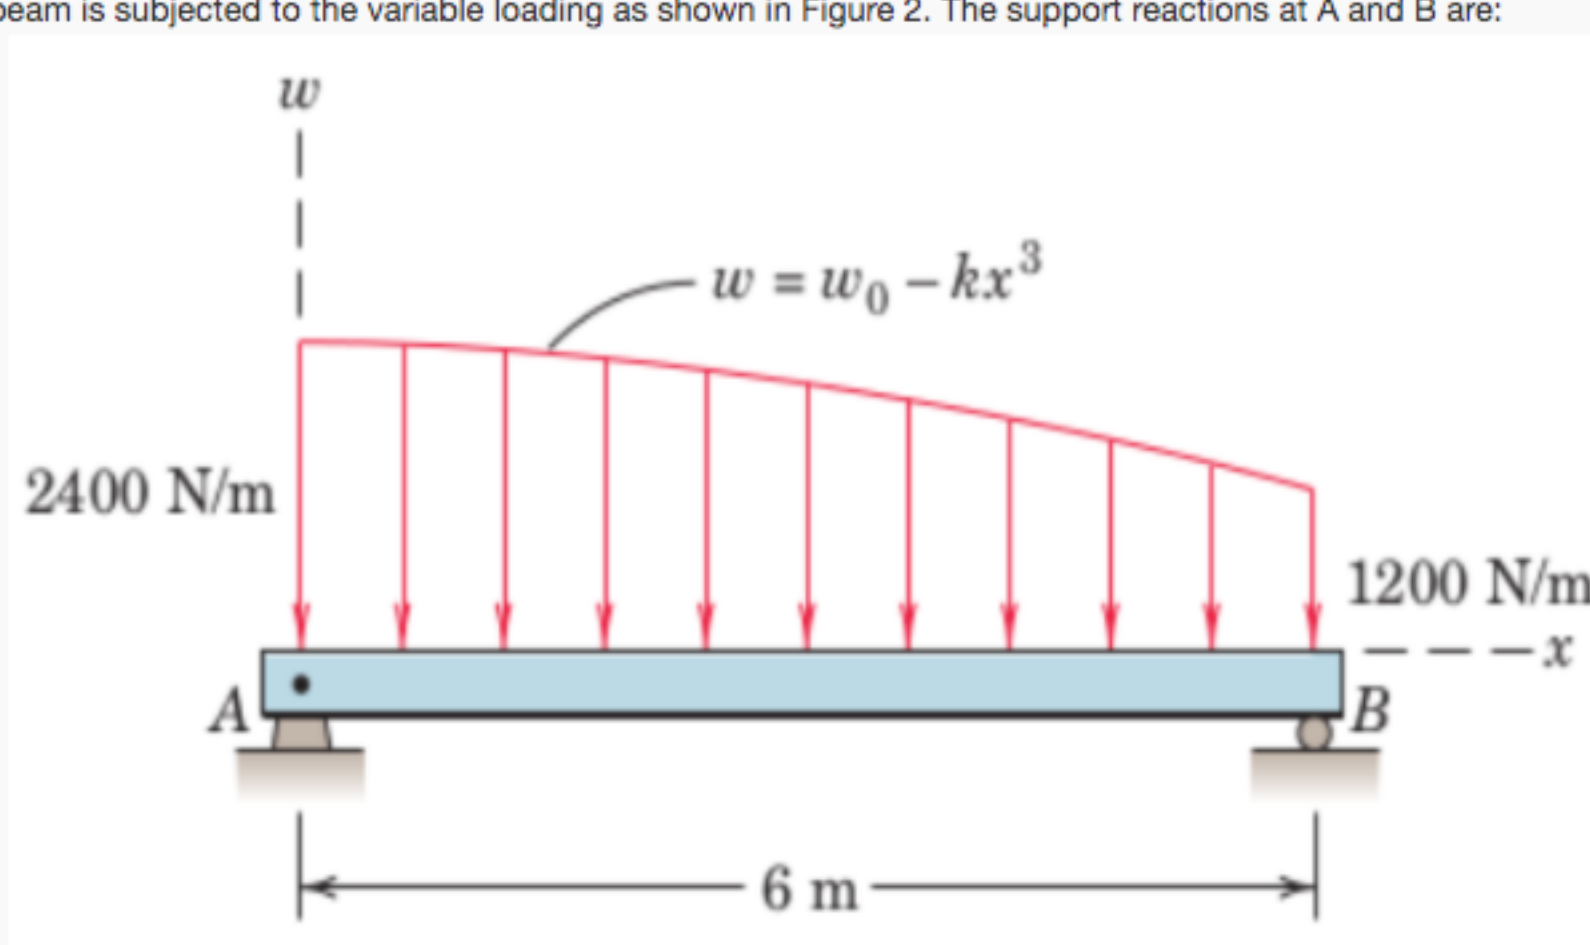

Figure 2: Figure for question No.2
2) A beam is subjected to the variable loading as shown in Figure 2. The support reactions at A and B are: **1 point**